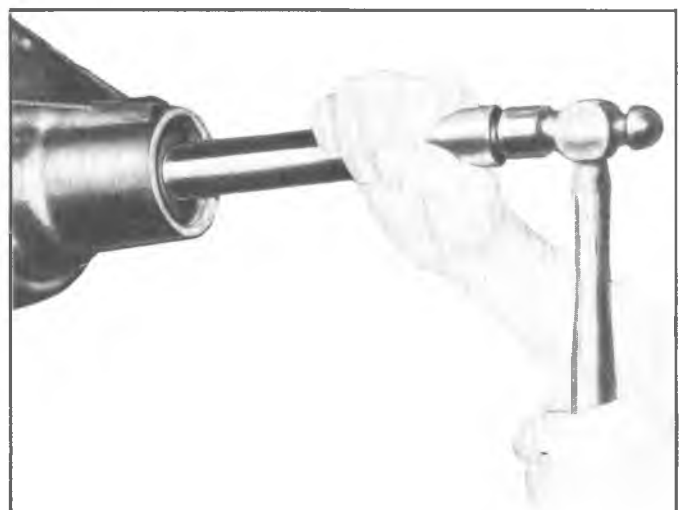

Fig. 17B—Installing Pinion Front Bearing Cup
7. Install the front cup, with the large end against the bore shoulder, using Installer J-7137 as shown in figure 17B.